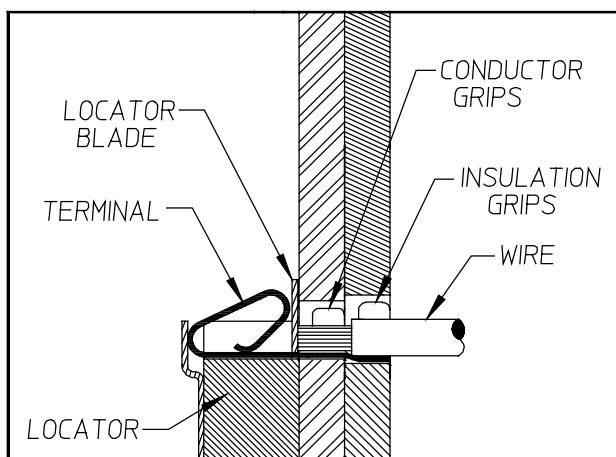

Figure 2
2. Partially close the tool until the terminal is held in place, (See Figure 2).